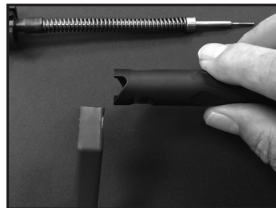

Figure 29-4
4. Remove the bolt handle from the bolt body (Figure 29-4).